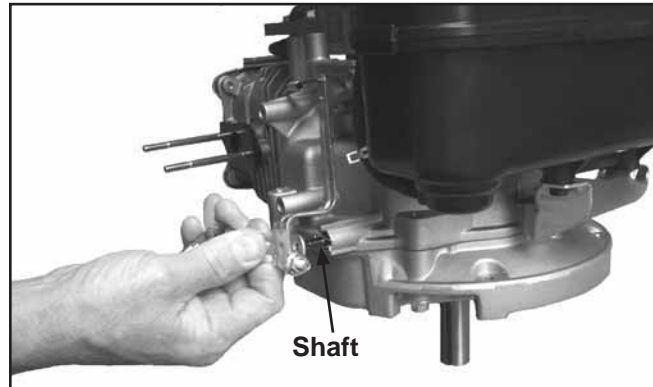

Figure 10-36. Installing Governor Lever.
1. Install the governor lever onto the governor shaft with the lever section up. See Figure 10-36.